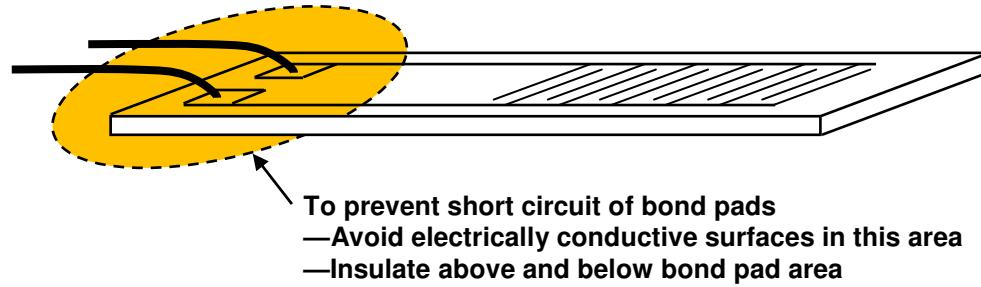

Figure 2
- Cover bond pads with Kapton® or polyimide tape, as shown in Figure 2